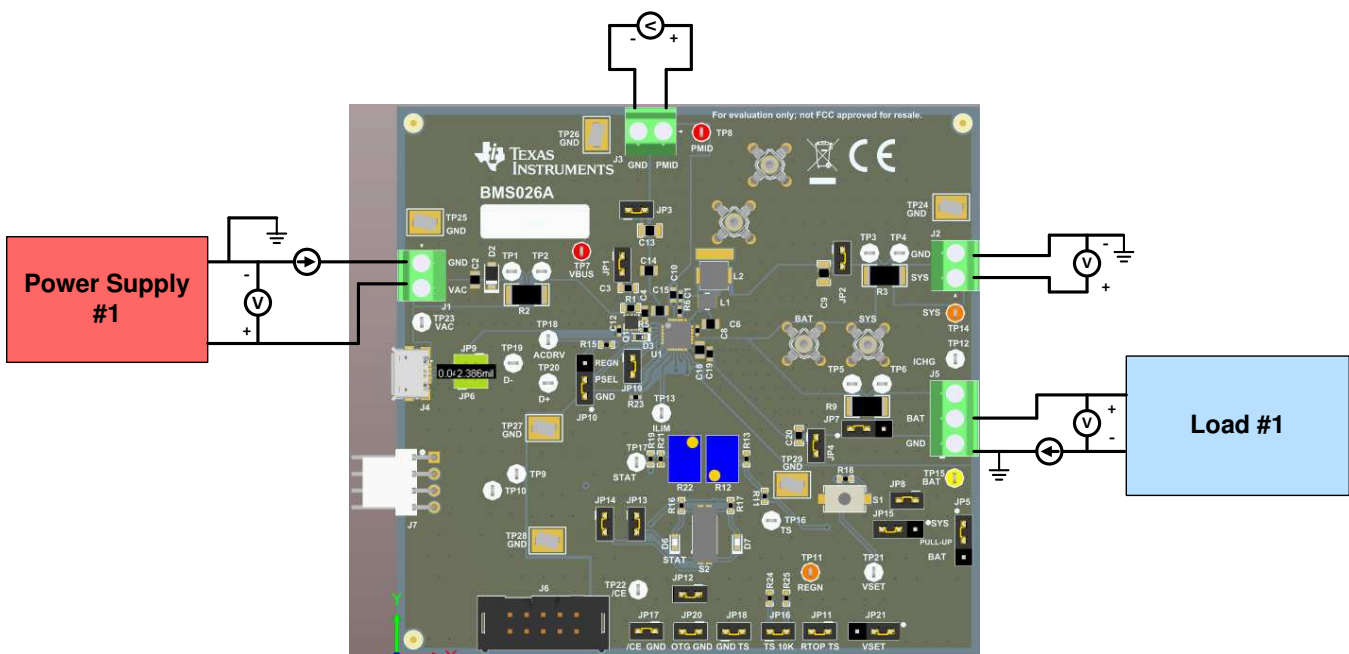

Figure 1. Original Test Setup for BMS026 EVM
5. Turn on Load #1, set to constant voltage mode, and output to 3.7-V. Disable Load. Connect Load in series with a current meter (multimeter), ground side, to J5 (BATTERY and GND) as shown in Figure 1.
6. Connect one voltage meter across TP15 (BAT) and TP24 (PGND), or across J4-2 and J4-1 as shown in Figure 1.
7. Connect one voltage meter across TP14 (SYS) and TP24 (PGND), or across J2-1 and J2-2 as shown in Figure 1.